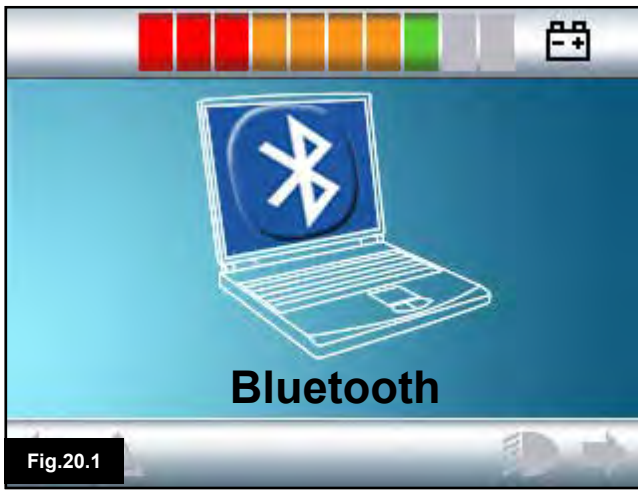

Fig.20.1
1. Press the 'Mode' button until the screen displaying a PC is shown (Mouse Mode, Fig 20.1).